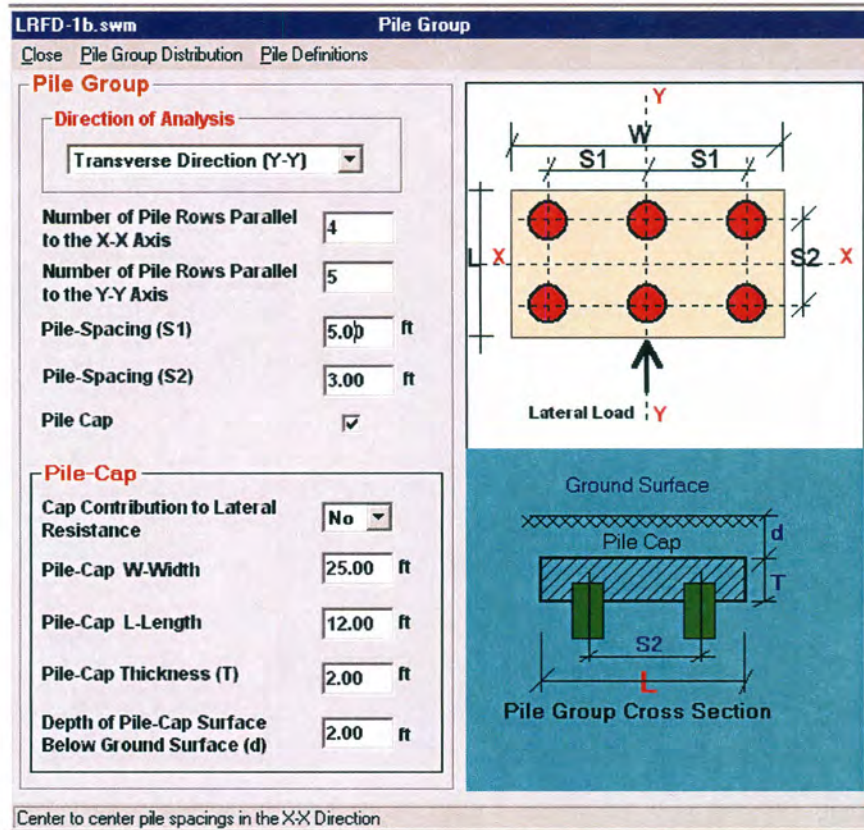
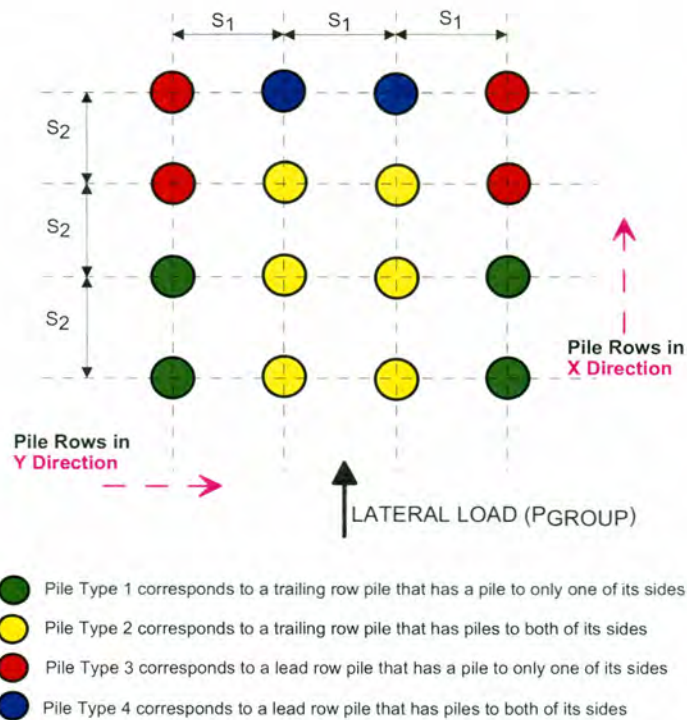

Fig. 3 Window # 1-2 (Pile Group)
Fig. 5 Description and Distribution of Piles in a Group
- If Pile Group problem is checked, **Pile Group** option in the Menu Bar will be enabled. Click Pile Group option in the Menu Bar to open **Window # 1-2** for pile group input data (see Fig. 3 for Window 1-2).
- **Window # 1-2 (Pile Group)** [Fig. 3]
- This window is available in pile group analysis. Click **Pile Group** in the Menu Bar in any window to open this window. Pile Group in the Menu Bar will be disabled with the single pile/shaft analysis. The following points are shown in **Fig. 3**
- **Pile Cap:** Check *Pile Cap Effect* to include the shaft cap influence on the structural system of the whole pile group. Based on the loading direction, the existence of a shaft cap converts the external moment (M) on the pile/shaft group to axial compression/tension forces on the piles of the group. Check the Pile Cap effect to enable the entry of cap properties (**Figs. 3 and 4**).
- **Pile Cap Thickness (T):** Enter the thickness (depth) of the pile cap.
- Click *Pile Definitions* in the Menu Bar to show the different types of pile in the pile group according to the location of the pile in the group and the direction of loading (**Fig. 5**).
- The value of the lateral load on the pile group will be taken in part by the cap resistance if the soil resistance for the cap is considered in the analysis (as noted in **Fig. 3**).